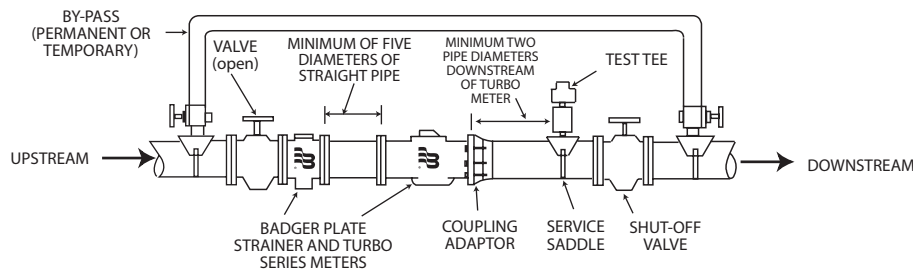

Figure 1: Recommended meter installation
Procedures for installing Recordall Turbo Series meters are essentially the same for all meter sizes. Any special instructions required for the installation or connection of accessory devices such as AMR/AMI technologies or strainers is provided in the literature for those devices. Figure 1 shows a recommended meter installation.
- ◊ When installing the meter with a separate plate strainer or integral strainer, a minimum of 5 pipe diameters of straight, unobstructed pipe is recommended upstream of the meter. For optimum protection and accuracy, this straight pipe spool piece should be installed between the separate strainer and meter (see Figure 1). A minimum of 10 pipe diameters (minimum of 25 pipe diameters for smallest size) of straight unobstructed pipe is recommended upstream of a meter installed without a plate strainer. The deletion of a strainer, however, is not recommended. This allows for dampening of velocity profile distortions caused by elbows, pumps, and dirt traps upstream of the meter. Where spiral flows are created by three dimensional elbows or rotary pumps, additional distance to dampen the effect is beneficial. If a basket or Y-type strainer is used, place it 5 to 10 pipe diameters upstream of the meter to dampen velocity profile distortions created by this design.